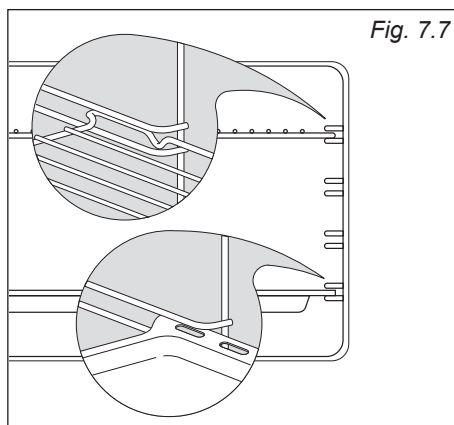

Fig. 7.7
- Slide the rack and the tray into the runners (fig. 7.7).
The rack must be fitted so that the safety catch, which stops it sliding out, faces the inside of the oven (fig. 7.7).